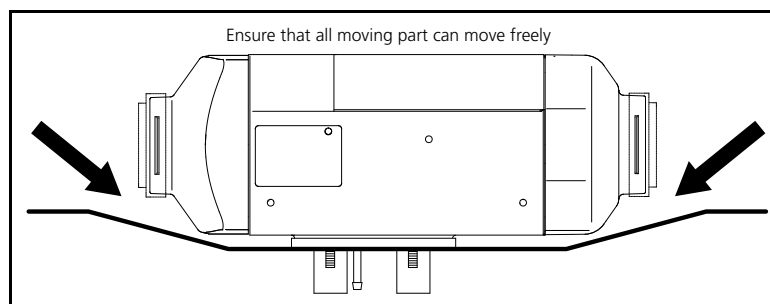

Figure 6. Installation
*After installation, check that the heater casing is not in contact with any parts of the vehicle body. A failure to do this may result in the hot air fan binding internally (Figure 6).*